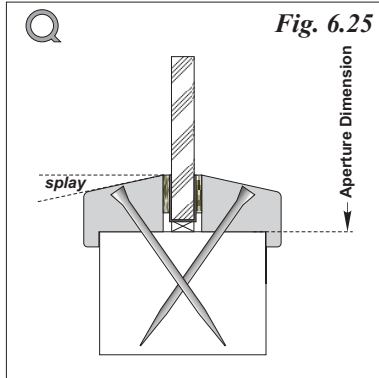

Fig. 6.25
- Timber used to manufacture the glazing bead and method of fixing remains as described by reference to **page 6.14 - Fig. 6.25** for **Hardwood Splayed Bolection Beads**. **See above.**
- 25x25mm Hardwood bead including 5x5mm bolection with 20° chamfer otherwise complying with and fixed as described by reference to **page 6.14 - Fig. 6.25**.
- 25x17.5mm Hardwood bead including 5x5mm bolection square or with a chamfer up to 20°, otherwise complying with, and fixed, as described by reference to **page 6.14 - Fig. 6.25** but using 63mm long pins 1.8mm gauge minimum OR screws.
- 25x18mm Hardwood bead including 5x5mm bolection with a 16° chamfer otherwise complying with, and fixed, as described by reference to **page 6.14 - Fig. 6.25** but using 70mm long No. 6~8 screws.
- 30x16.5mm Hardwood bead including 5x5mm bolection with a 20° chamfer otherwise complying with, and fixed, as described by reference to **page 6.14 - Fig. 6.25** but using 60mm long pins OR screws.
- 30x16.5mm Hardwood bead including 5x5mm bolection with a 20° chamfer otherwise complying with, and fixed, as described by reference to **page 6.14 - Fig. 6.25** but using 60mm long No. 6~8 screws.